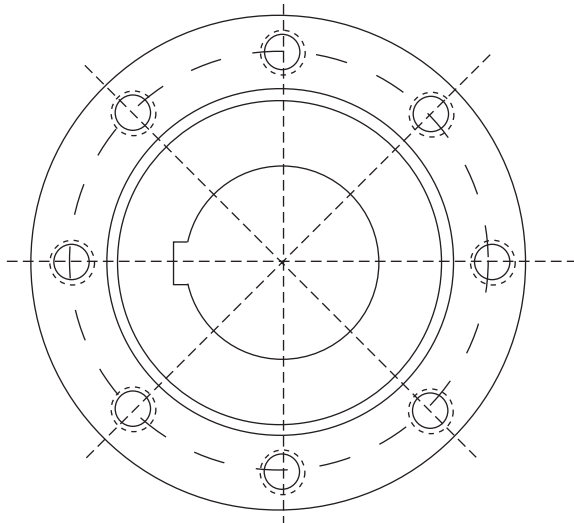
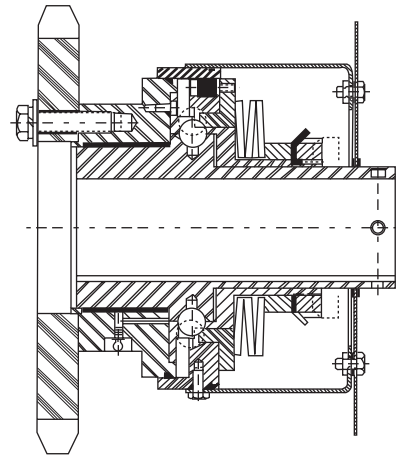

Figure 3 – Standard Mounting Hole Patterns
Figure 4
3. Attach sprocket to housing using stainless steel hexagon head capscrews, high collar lock washers and flat washers. See Figure 3 for mounting patterns, screw sizes, screw quantities and recommended screw seating torques. See Figures 4 and 5 for standard Type B NH-78 sprocket mounts.